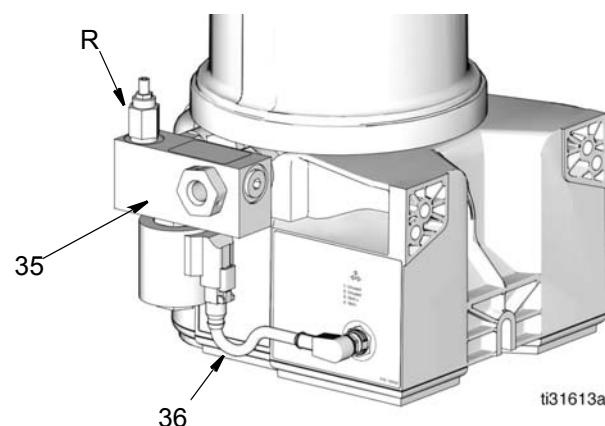

FIG. 18
Connect one end of the vent valve cable (36) (Graco Part No. 129801) to the vent valve connector on the pump. Connect the other end of the cable to the vent valve (35) as shown FIG. 18.
## Pressure Relief Valve (FIG. 18, R)